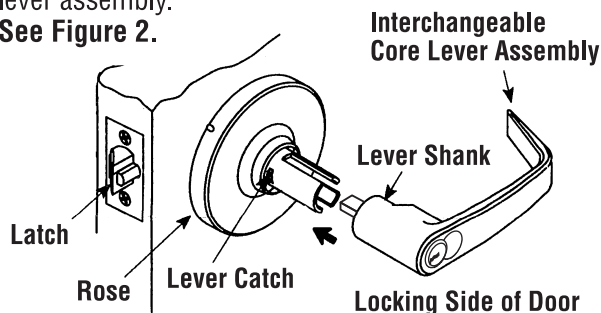

Figure 2
- B. Align lever catch slot (found inside lever shank) with lever catch. See Figure 2. Slide lever assembly onto chassis up to lever catch. Depress lever catch and push lever assembly until lever catch is engaged, securing lever assembly. See Figure 2.